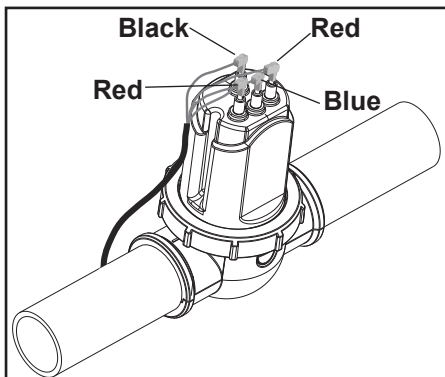

Figure 17. Connecting Cell Leads
15. Securely connect the cell leads to the like colored terminals (see Figure 17).